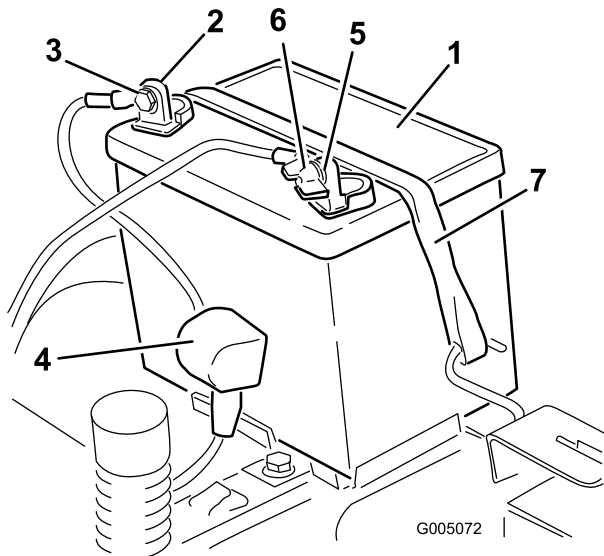

Figure 39
4. Disconnect the negative (black) ground cable from the battery post (Figure 39).
6. Disconnect the positive (red) cable from the battery post (Figure 39).
7. Remove the battery hold-down and lift the battery from the battery tray (Figure 39).
1. Position the battery in the tray (Figure 39).
5. Secure the battery with the hold-down (Figure 39).